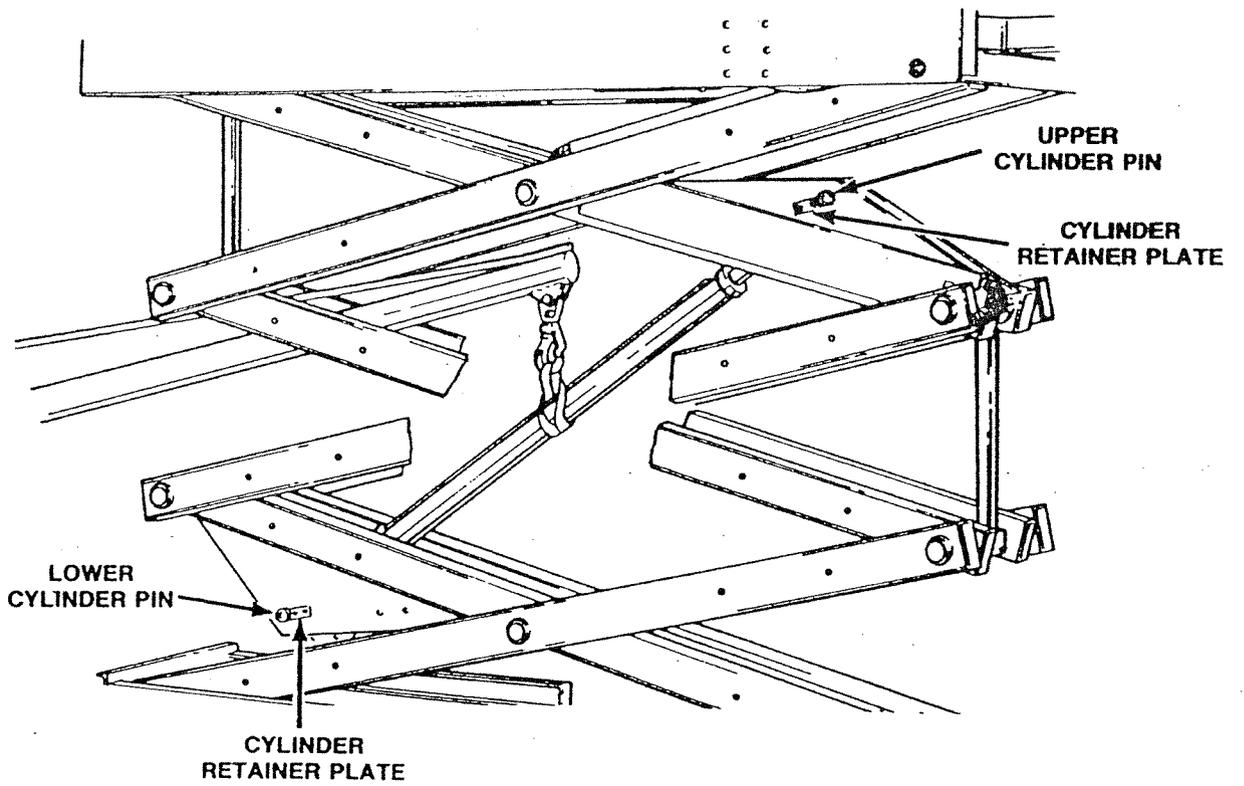

FIG. 1-16 Removing Lift Cylinder
- d. Remove cylinder pin retaining plates on both sides of cylinder mounting (top and bottom) (Figure 1-16)
- e. Wrap a self-tightening strap around center of the cylinder (Figure 1-16).